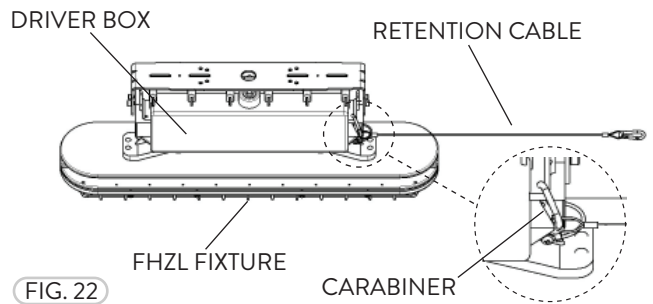

FIG. 22
- 2 Attach the Safety Retention Cable to the FHZL fixture as shown below (Fig. 22). There are holes located next to the Driver Box on either side of the fixture.